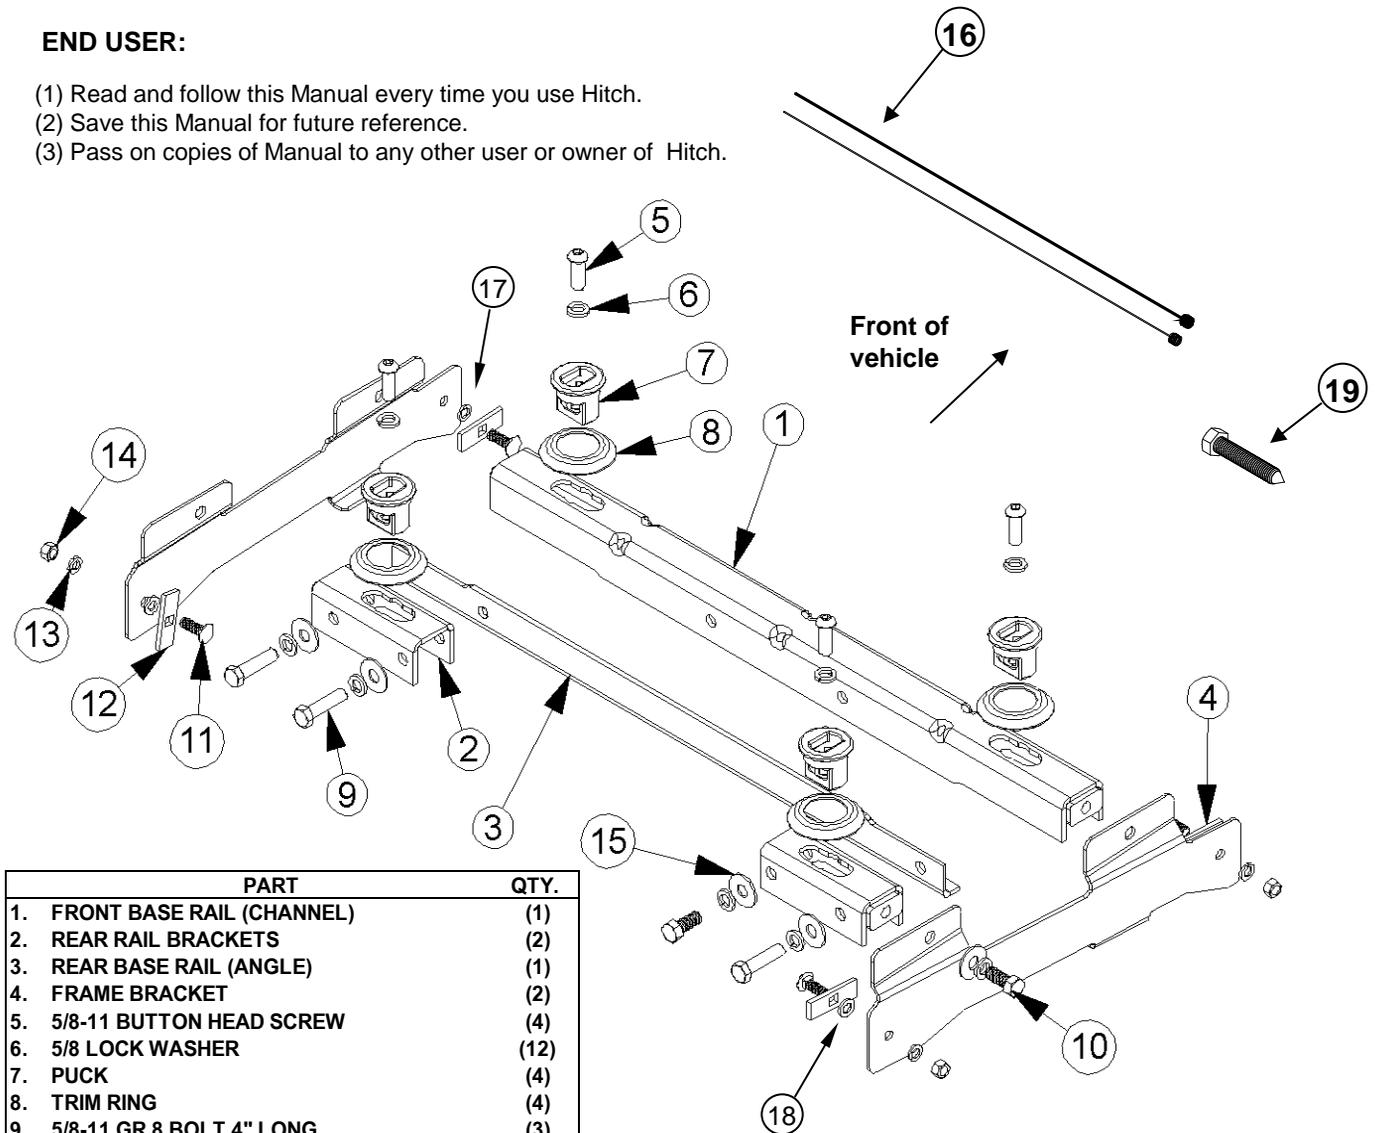

Figure 1
1. The following instructions should be used to mount the 5th wheel. Care and attention to detail will ensure a quick quality installation. Check parts against parts list to become familiar with parts in kit. **(Figure 1)**